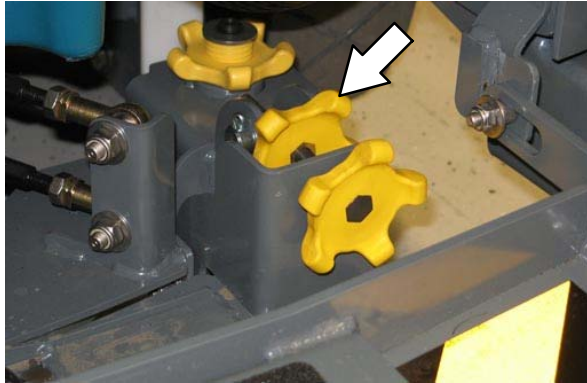

FIG. 11
4. To adjust the squeegee leveling, loosen the tilt lock knob. (Fig. 11)